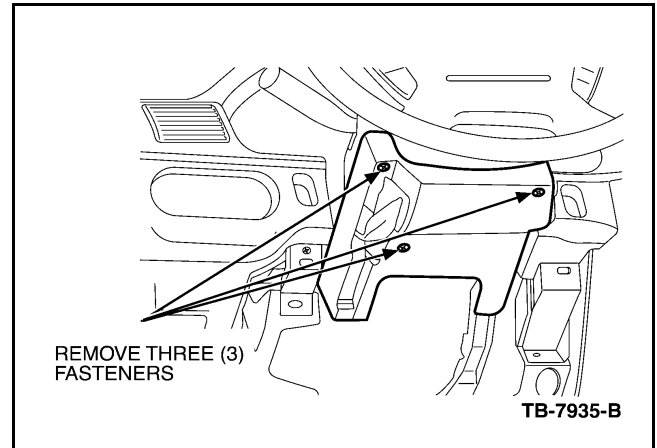

Figure 2 - Article 04-22-12
2. Remove the three (3) fasteners supporting the steering column lower shroud and remove the cover (Figure 2).